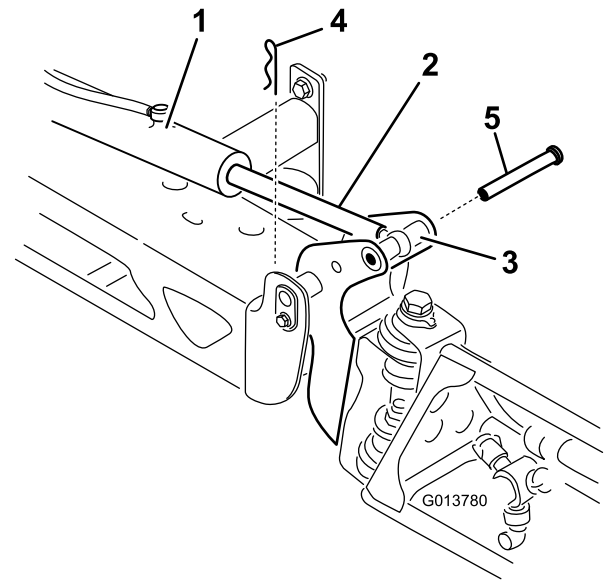

Figure 66
2. Remove the hairpin from the clevis pin (Figure 66).
3. Lift up on the section, remove the clevis pin, and slowly lower the section to the ground (Figure 66).
7. While supporting the spray section, insert the clevis pin through both boom pivot and actuator rod (Figure 66).